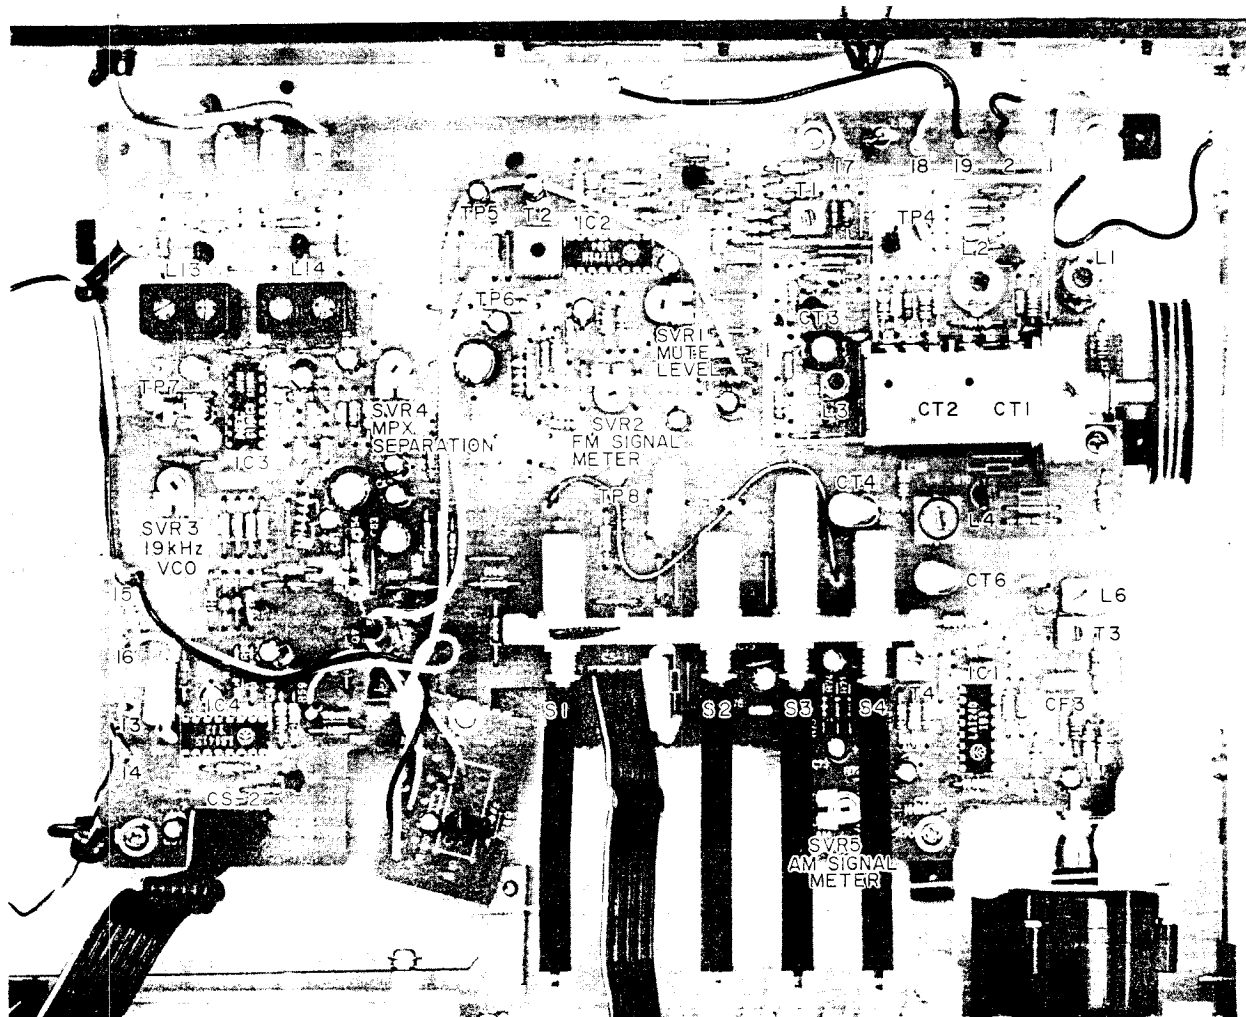

Fig. 4 Tuner P.C Board (Parts Side View)
1. AM SECTION ADJUSTMENTS (Refer to Figs. 4, 5)
Unless otherwise specified, use the adjustment points provided on the Tuner P.C Board (Fig. 4)